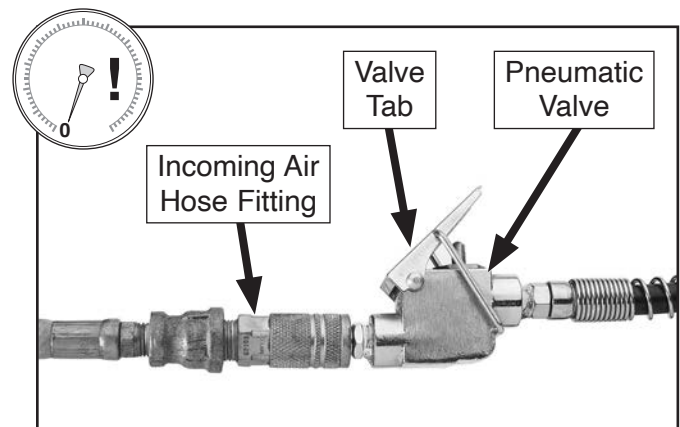

Figure 27. Example of incoming air hose connected to pneumatic valve.
4. Connect incoming air hose fitting to pneumatic valve, as shown in **Figure 27**.
6. Adjust pump relief valve and press valve tab (see **Figure 27**) as needed depending on desired operation: